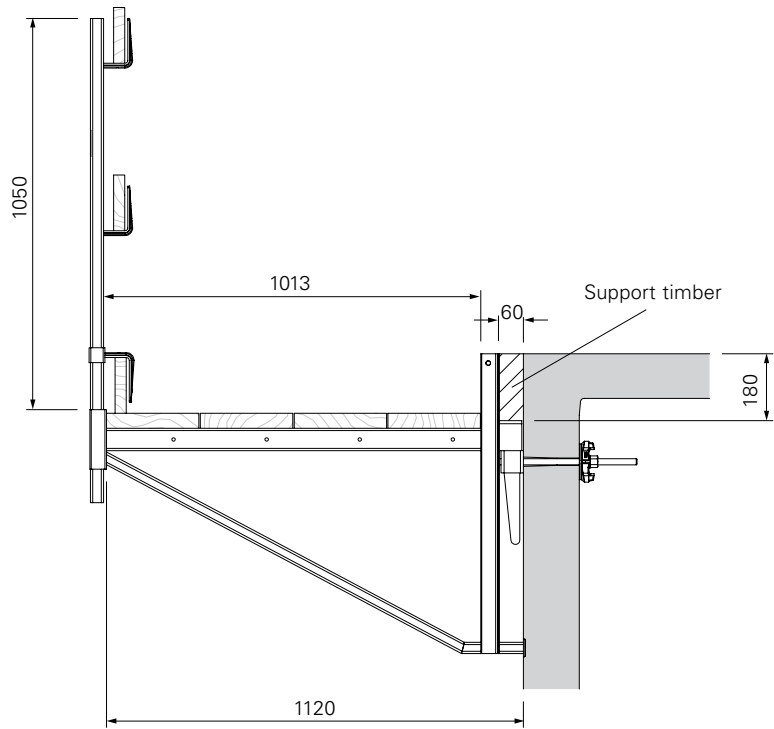

Fig. D3.09a
3. Attach handrail boards and secure. (Fig. D3.09a + D3.09b)